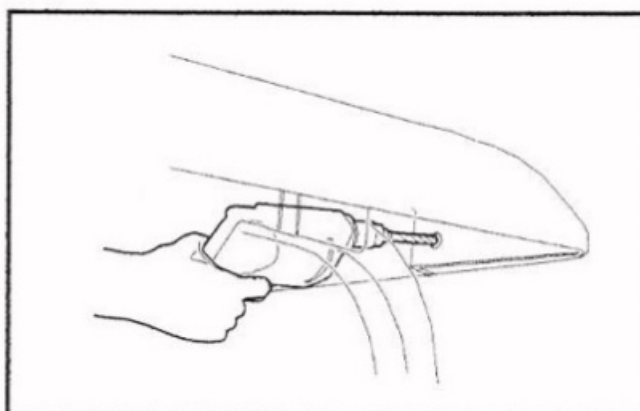

Figure 4 Drill Mounting Holes—
2.1. Place the tracking bar against the two gussets at the rear of the canopy as shown (Figure 4). Make sure the tracking bar is centered on the canopy.
2.2. Mark the center of one new mounting hole onto each canopy gusset using the two innermost holes on the tracking bar as templates. Drill two 9/32 inch holes through canopy gussets (Figure 4). See following Caution.